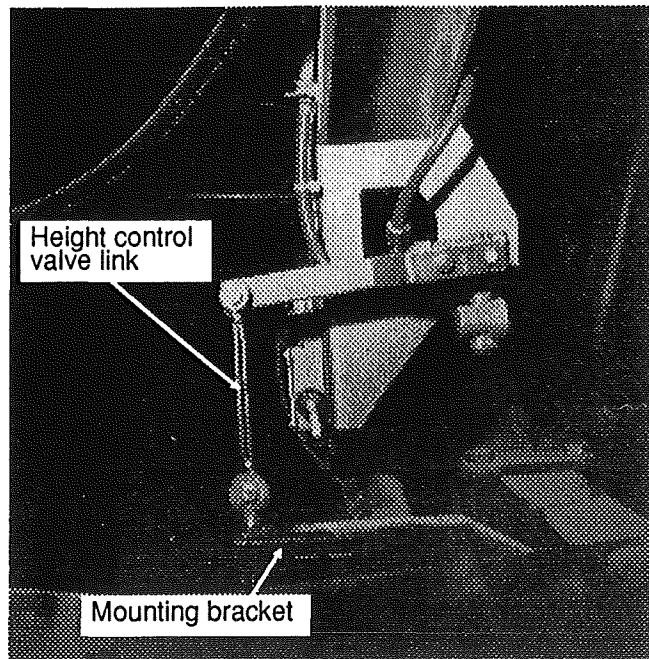

FIG. 24
2. If dimension is incorrect, remove the nut and washer which attach the height control valve link to the link mounting bracket on the axle (see figure 24).